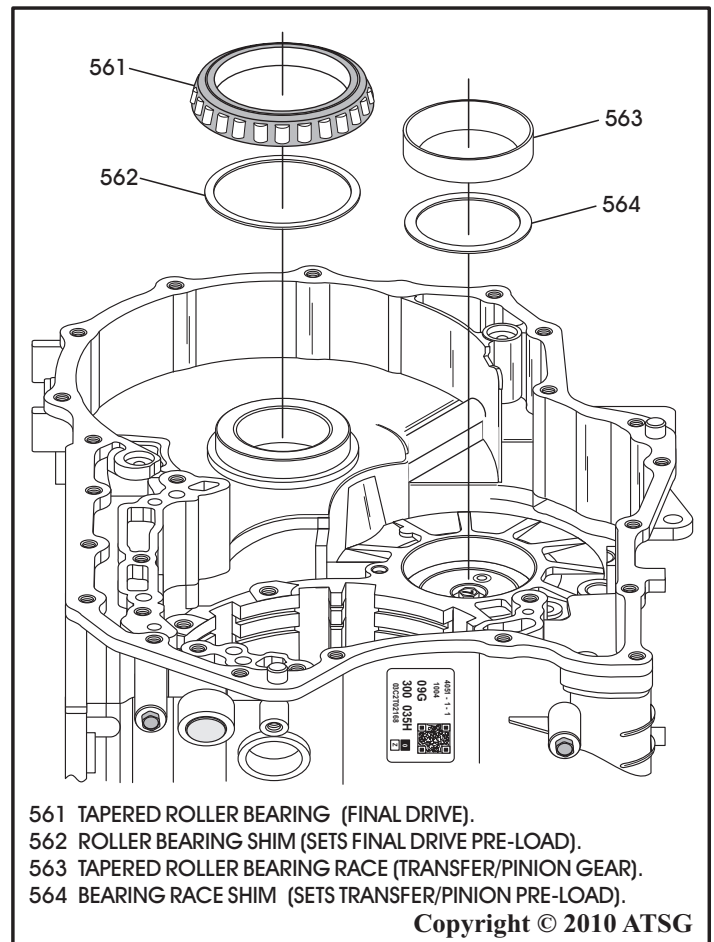

Figure 91
5. Install tapered roller bearing and roller bearing race as necessary, as shown in Figure 91.